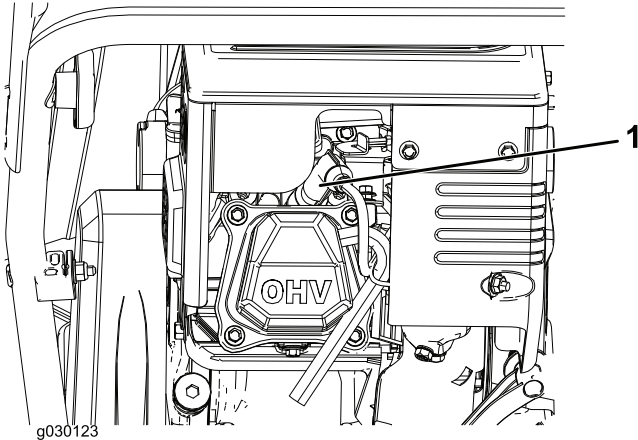

Figure 19
- A. Remove the dipstick and slowly pour oil into the oil-fill tube to raise the oil level to the Full mark on the dipstick (Figure 19). Do not overfill.
1. Remove the boot (Figure 19).